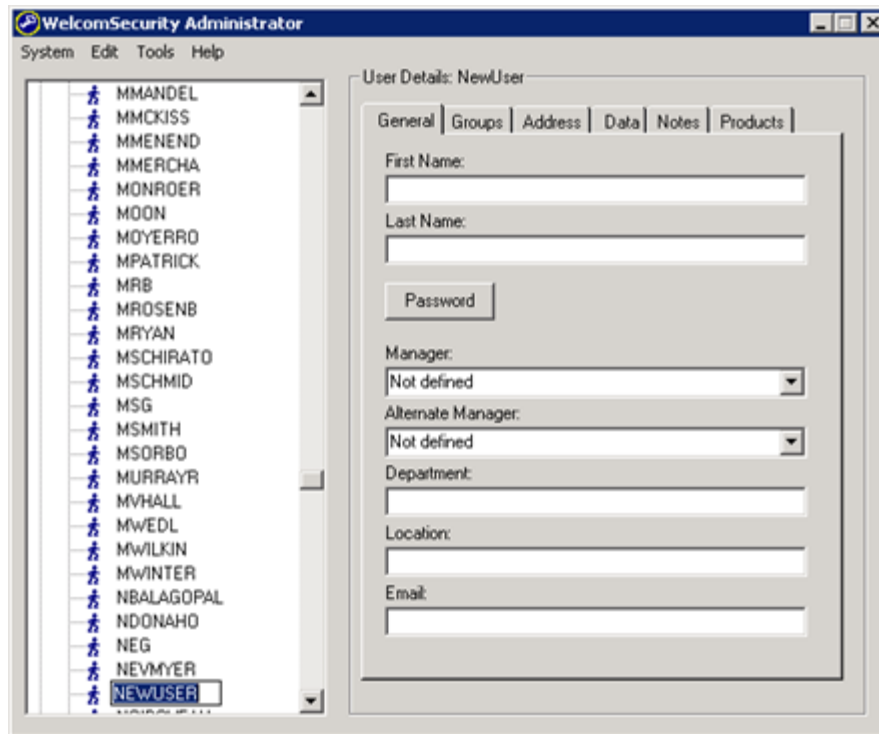

Figure C.7 - Welcom Security Administrator Users
3. A user name will have to be created for the individual. As a default the name “newuser” will be used. This “newuser” will be highlighted in blue, See Figure C.7 below, and have to be renamed. The users name should be their LAN user ID for consistency.